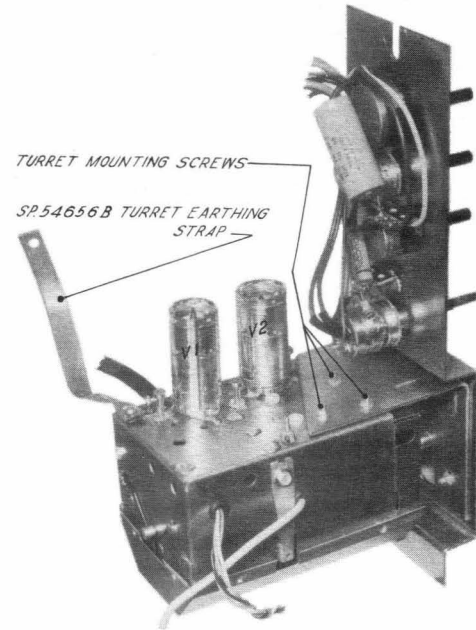

Fig. 8
- (d) Remove the control panel mounting nuts as shown in Figure 3 and withdraw the control panel assembly pictures in Figure 8.